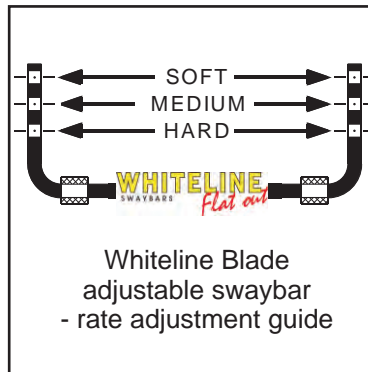

Figure 1.
- (e) Refer to figure 1 for swaybar adjustment guide.